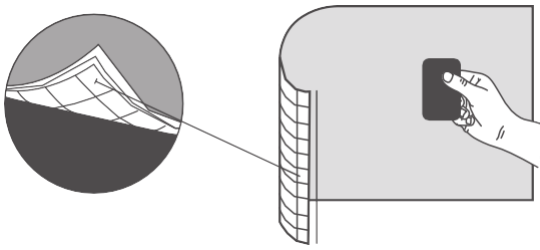

Figure 1: 3M™ Comply™ Air-Release Channels
- Easy Application — 3M™ Comply™ Adhesive technology virtually eliminates bubbles, simplifying and speeding application (see Figure 1).